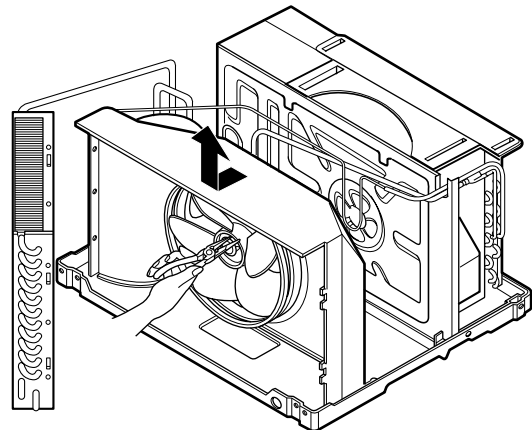

Figure 22
6. Remove the fan and then pull out the shroud. (See Figure 22)